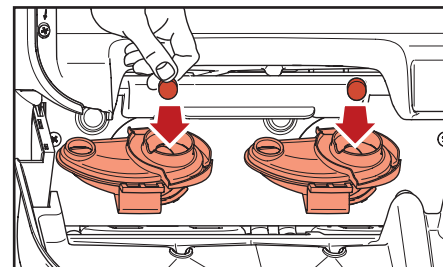

Fig. 5.4 - Insert Rinza cleaning tablets
4. Insert a Rinza cleaning tablet in each of the mixing bowls (fig. 5.4).
- i. Insert a Rinza cleaning tablet in both mixing bowls (fig. 5.4).